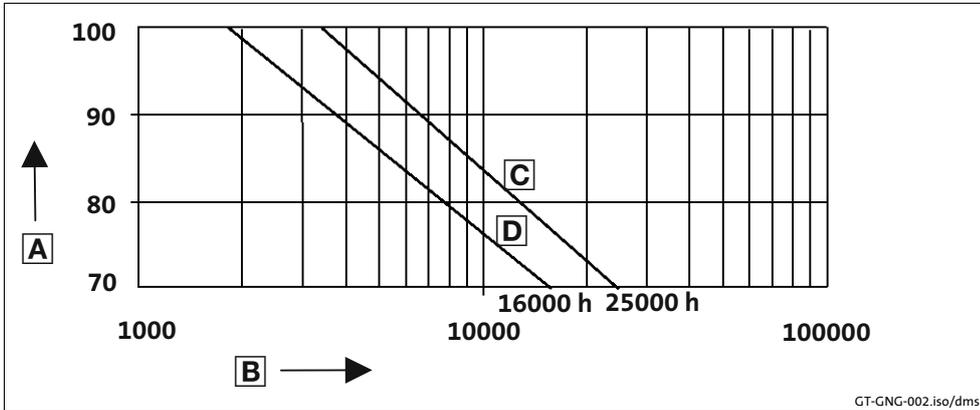

Fig. 13 Lubricant diagram
- The lubricant maintenance interval depends on the oil temperature, see Fig. 13.